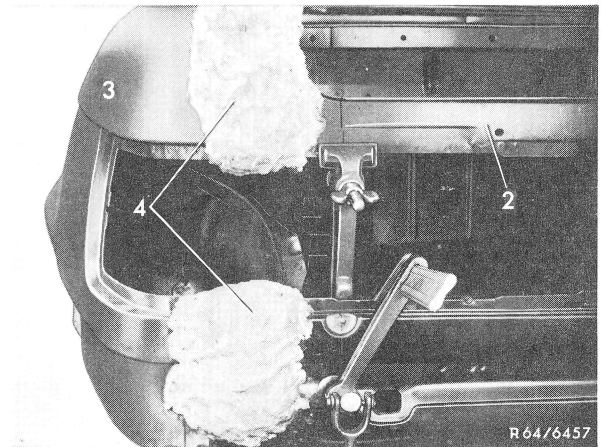

Figure 2
- 11 Insert lower rear center piece (2) and attach with hand vices or screw clamp (Fig. 2).
Note: To protect paintwork of fender (3), place asbestos on joint (4) (Fig. 2).